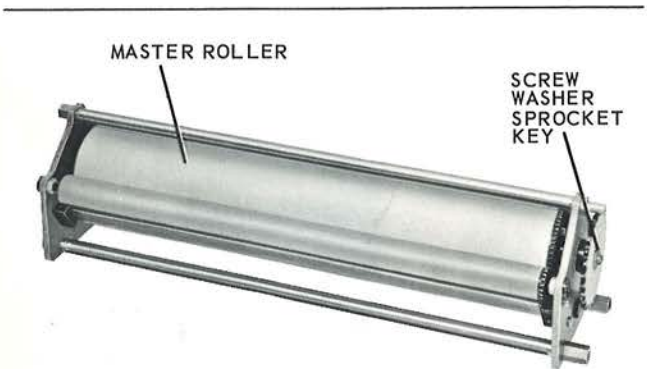

FIGURE 34 TURNAROUND ASSEMBLY
3-58. Examine the MASTER ROLLER, figure 34, for broken teeth or loose gudgeons. If the gudgeons are loose, the rollers should be replaced or the gudgeons secured with a cement, such as Pliobond, or an epoxy resin.
- c. Remove the SCREW, WASHER, SPROCKET, and KEY, figure 34.